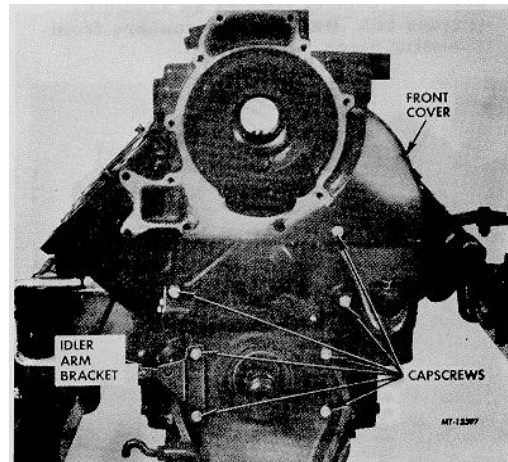

Fig. 66 Front Cover Mounting Details
59. Remove remaining front cover capscrews (Figure 66) except two. With help from an assistant, loosen the two capscrews and lift front cover and gasket off dowel pins in crankcase.